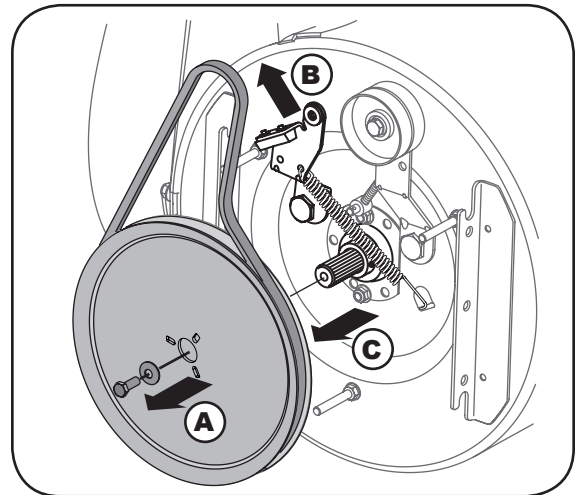

Figure 30
10. a. Using a 1/2" wrench, remove the hex screw and washer from the center of the pulley on the auger housing. See Figure 30.